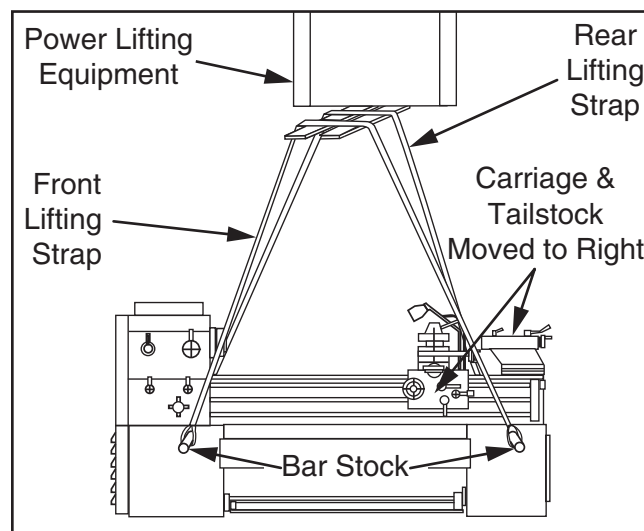

Figure 18. Example of lathe setup for lifting.
6. Insert round steel bar stock through four lifting holes (see **Figure 18**).